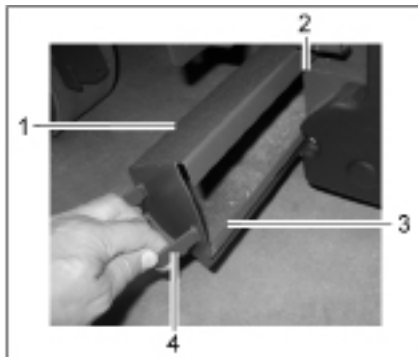

Fig 30
The waste container (Fig. 30/1) can only be removed on the right-hand side of the vehicle.
1. Take hold of the waste container (Fig. 30/1) by the handle (Fig. 30/4) and pivot it back to the left a little to unlock it.
2. Pull the waste container (Fig. 30/1) out using the handle (Fig. 30/4).
The waste container cannot be filled higher than the throw-in edge (Fig. 30/3).
Empty the waste container (Fig. 30/1) regularly at a suitable location.
Wash and clean the waste container (Fig. 30/1) with water.
Position the waste container (Fig. 30/1) on the guide edge (Fig. 30/2) and slide in, from the right-hand side, until it will go no further.